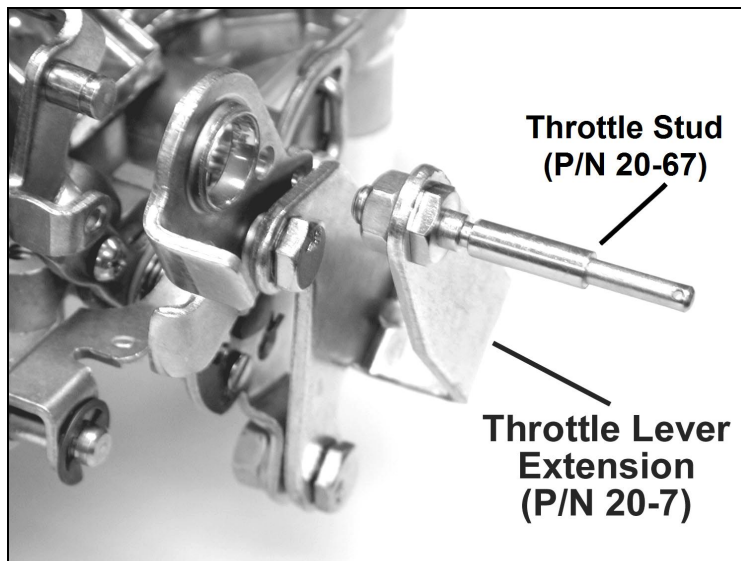

Figure 1—Chrysler applications
1. Unless you are replacing an existing Holley® carburetor (which already has a lever extension arm), you may need to purchase and install a throttle lever extension (Holley® P/N 20-7) on the carburetor. Remove the throttle stud and nut from the original carburetor. You can purchase a new stud from your Holley® dealer (Holley® P/N 20-67). Install the stud in the throttle lever extension (Figure 1). See the appropriate service manual for transmission adjustment.